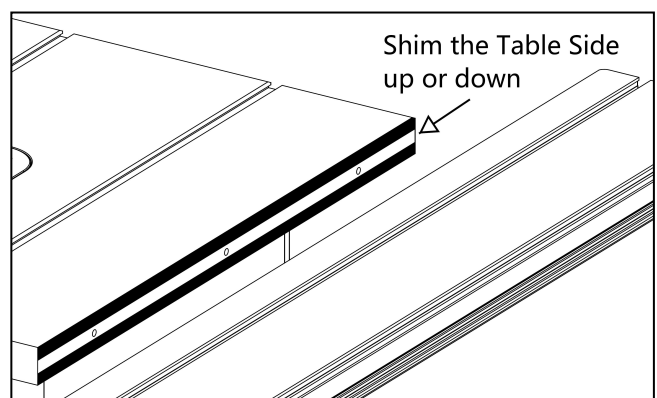

Fig.12
8. If the sliding table does not travel exactly parallel to the saw blade, the workpiece could bind and kickback toward the operator, causing serious personal injury. You **MUST** make sure that the sliding table travels parallel with the saw blade before any operation to avoid kickback injuries. You can shim or post crepe paper on the side of the table as shown in **Fig.12** to adjust the parallelism (≤ 0.1 mm).